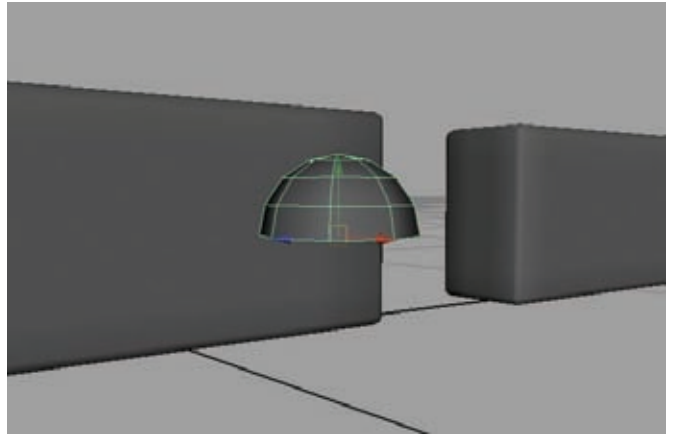

Figure 1.3
5. Press F8 twice to return to Object mode. With the half sphere selected, select Mesh → Fill Hole. This will cap the hole that you left behind, creating a solid half sphere (Figure 1.3).